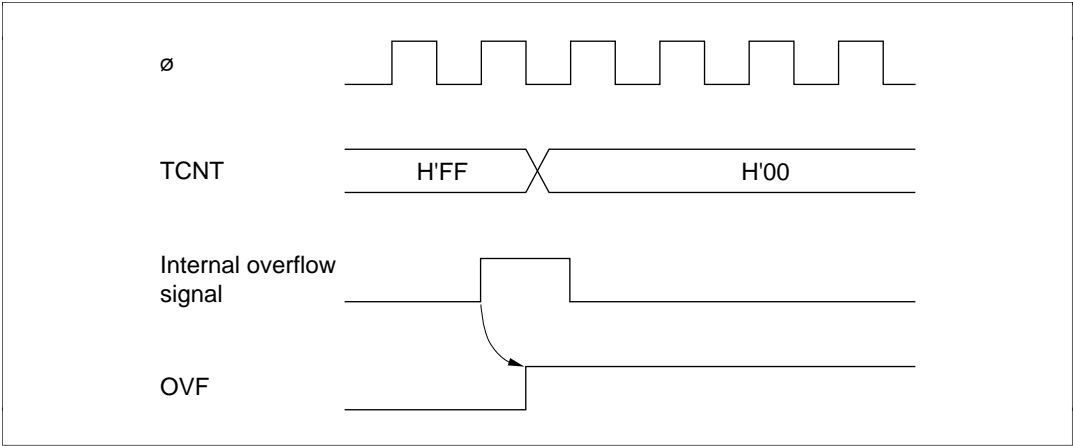

Figure 10-8 Setting of Overflow Flag
(1) **Setting of TCSR Overflow Flag (OVF):** The overflow flag (OVF) is set to 1 when the timer count overflows (changes from H'FF to H'00). Figure 10-8 shows the timing of this operation.